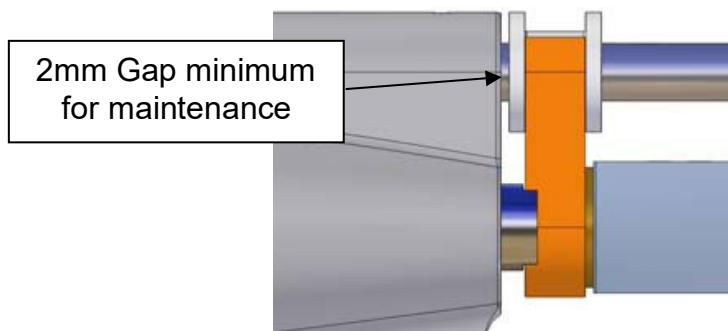

Figure 3
- 5.2 Return the points to "Manual" operation and check that there is a 2mm minimum gap between the white anti-rotation bush and the gearbox casting, See Figure 3. If no gap is visible, add switch rail packer(s) as required on the retract side to obtain a 'set-up' gap of minimum 3.5mm.